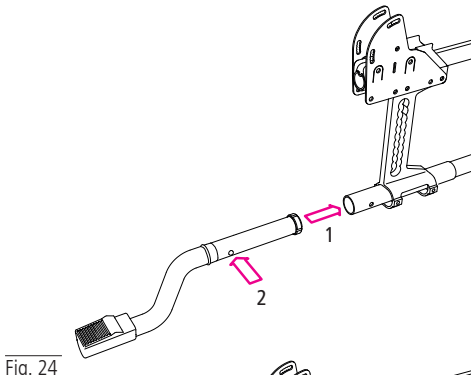

Fig. 24
2. Slide the step tube into the frame (1, Fig. 24). The pin clicks in audibly (2, Fig. 24).